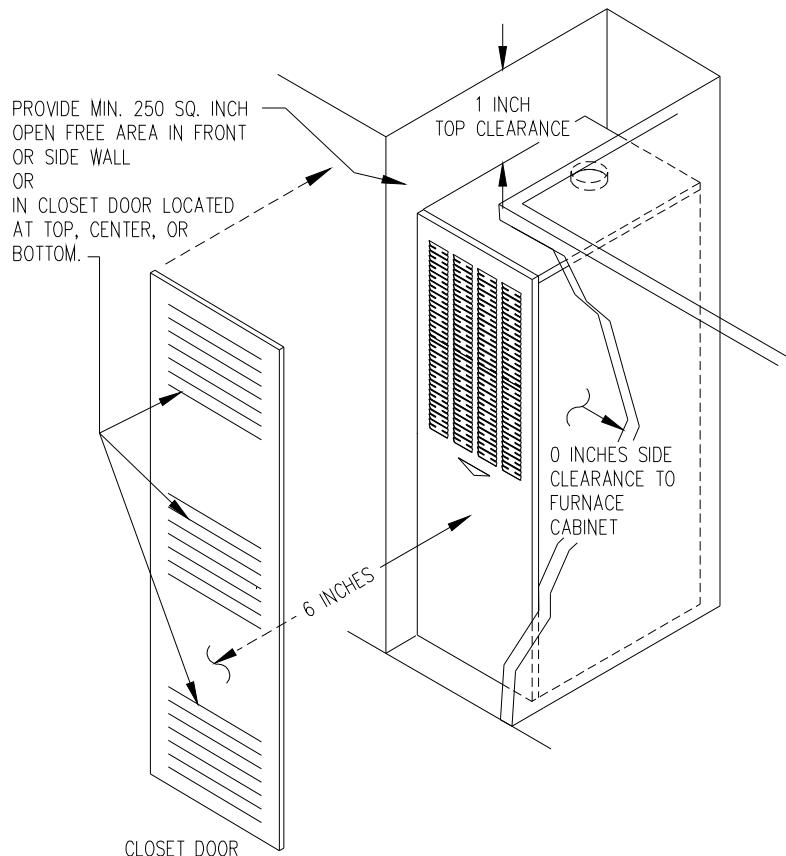

Figure 5.
1. The return air opening into the closet is to have a minimum free area of 250 square inches, (refer to Figure 5).